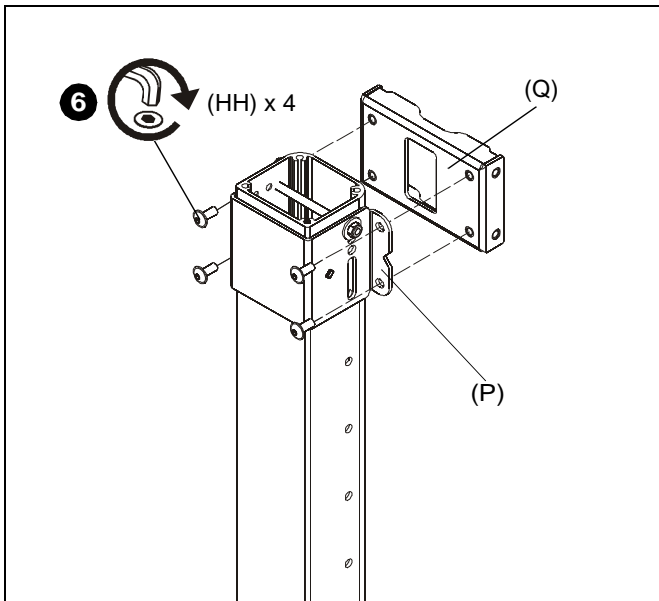

Figure 11
6. Use four 5/16-18 x 3/4" button head flange screws (HH) to secure each attached clamp bracket (P) to a quick connect base (Q). (See Figure 11)